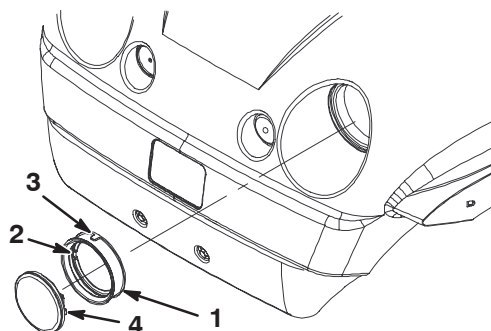

Figure 45
4. Remove the rubber seal from around the headlight (Fig. 45). Discard the headlight.
5. Align the notch on the inside of the seal with the notch on the new headlight (Fig. 45). Slide the seal onto the headlight until the seal is firmly in place.